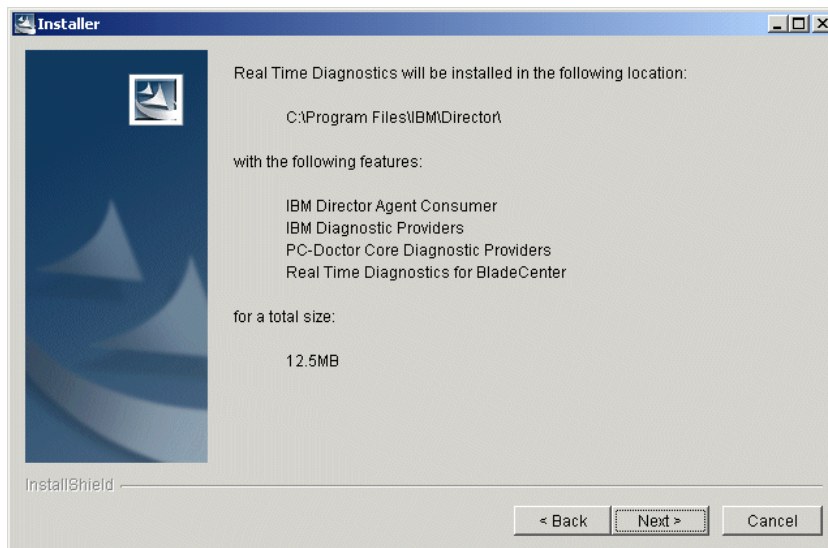

Figure 4-21 Destination and Features window
3. Click **I accept the terms of the license agreement** and click **Next**. You will see a window similar to Figure 4-21.